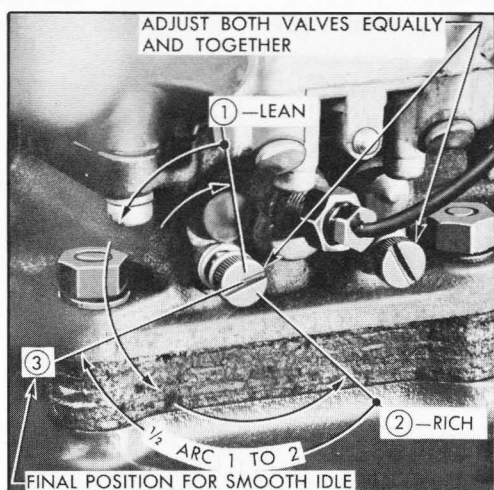

Figure 3-19—Adjustment for Smooth Idle
4. Turn both needle valves "IN" one-half the distance between the first and second positions, being careful to turn both valves an equal amount. See figures 3-19. This should give the smoothest idling point. *NOTE: As the needle valves are changed, the throttle stop screw also must be changed to maintain engine idling speed at 450 RPM (8 MPH on level road in third speed).*